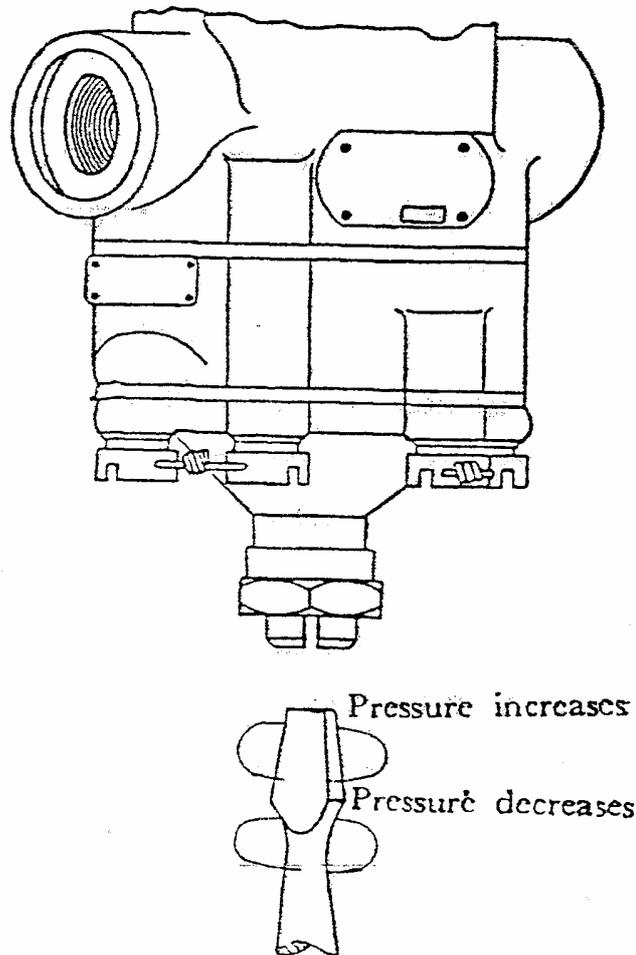

Fig. 7 Adjustment of fuel pressure
a. If the fuel pressure is abnormal, regulate it with the adjusting screw (fig. 7)